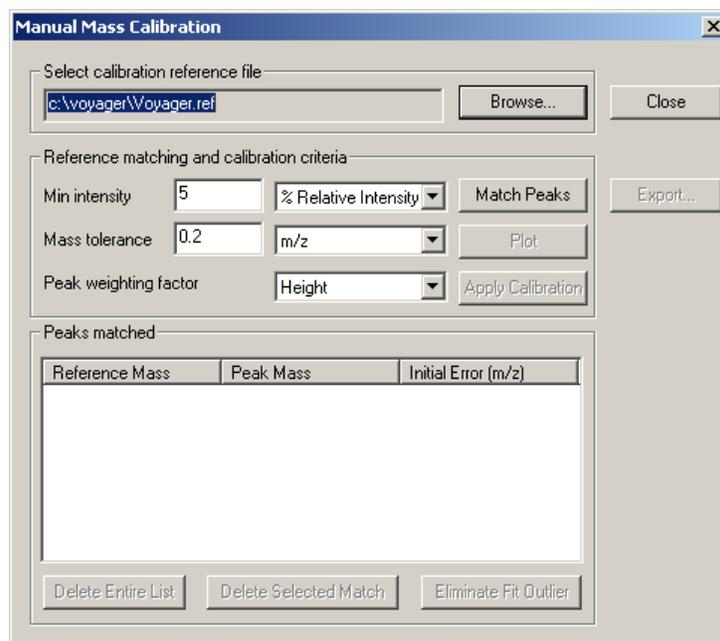

Figure 2: Manual Mass Calibration dialog box
- 2.9 Go to **Process** → **Mass Calibration** → **Manual Calibration** (*Figure 2*). Select C:\voyager\voyager.ref as the reference file and then select **Match Peaks**.